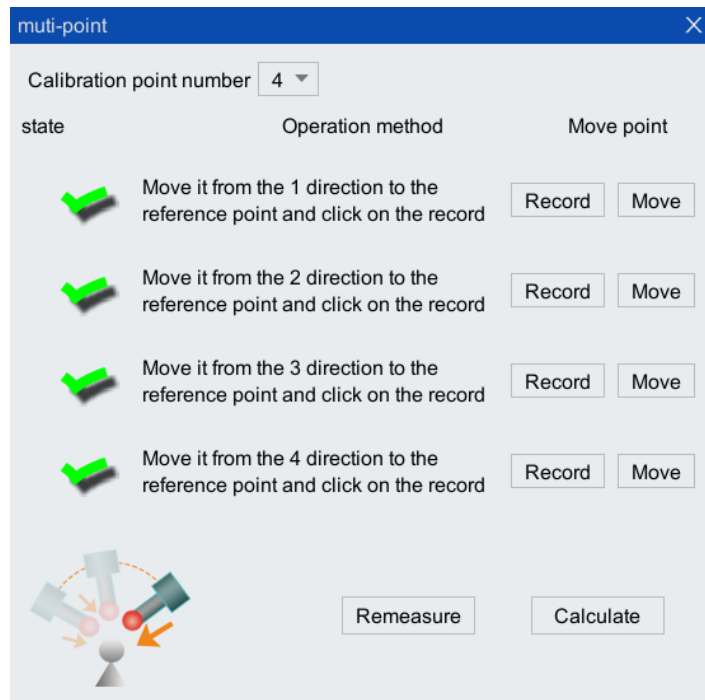

Figure 5-5 Interface status when all 4 points have been calibrated
Step5. After all calibrations are successful, all ✘ will become ✔, as shown in Figure 5-5. Click the <Calculate> button to calculate the error. If it exceeds the error range (more than 1), it needs to be calibrated again. If it is within the allowable error range, the calibration is completed.